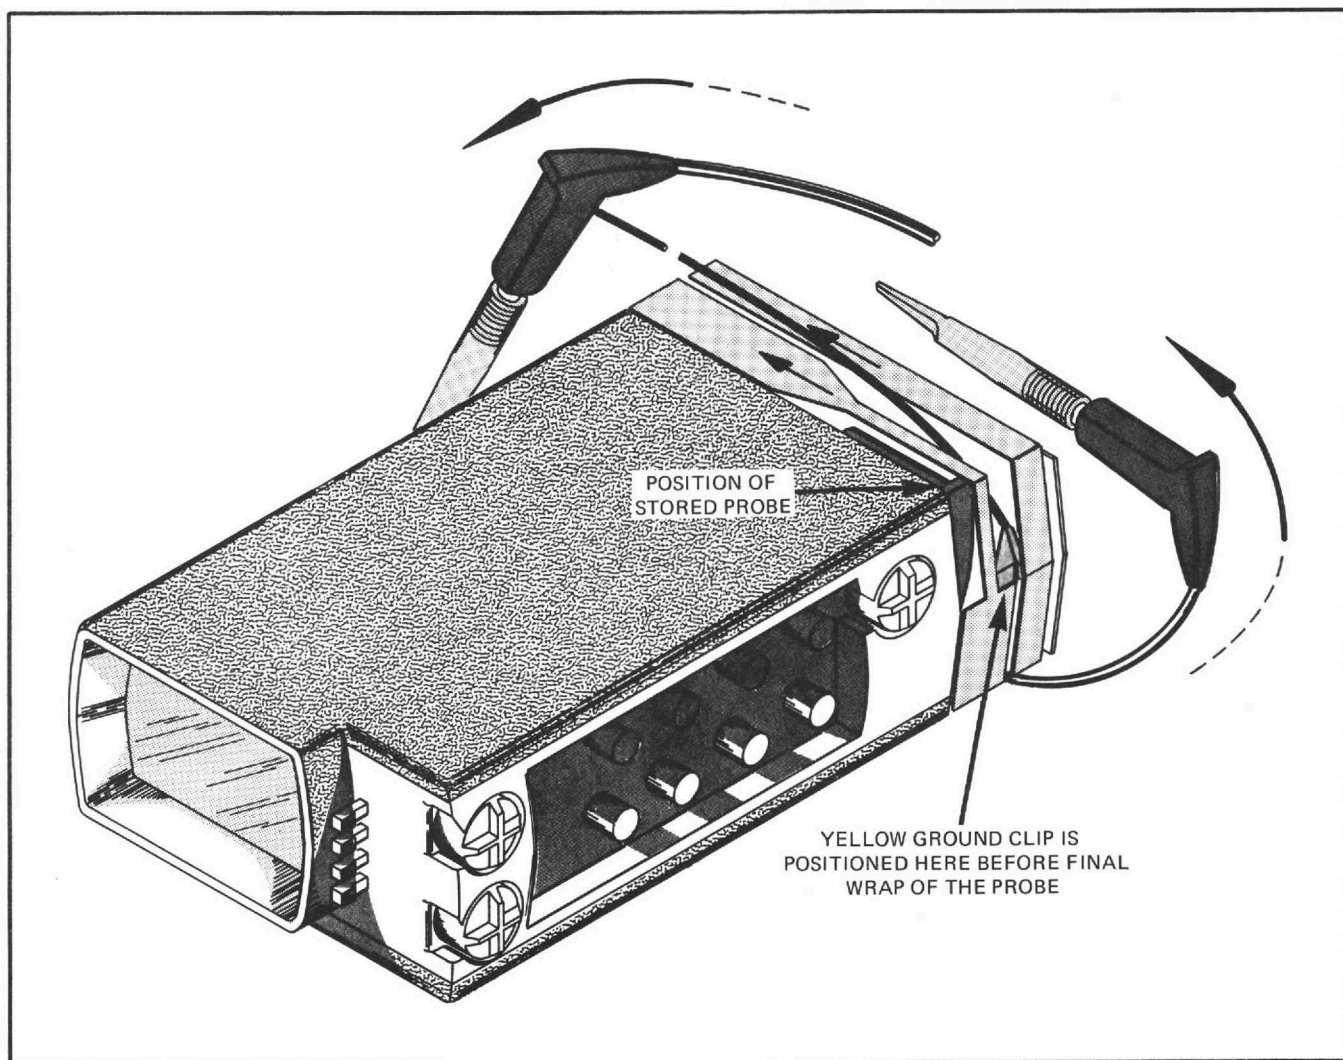

Fig. 3-1. Proper method for wrapping probes.
*The arrows on the probe wrap indicate the proper direction to wrap the probes and power cord. See Fig. 3-1.*